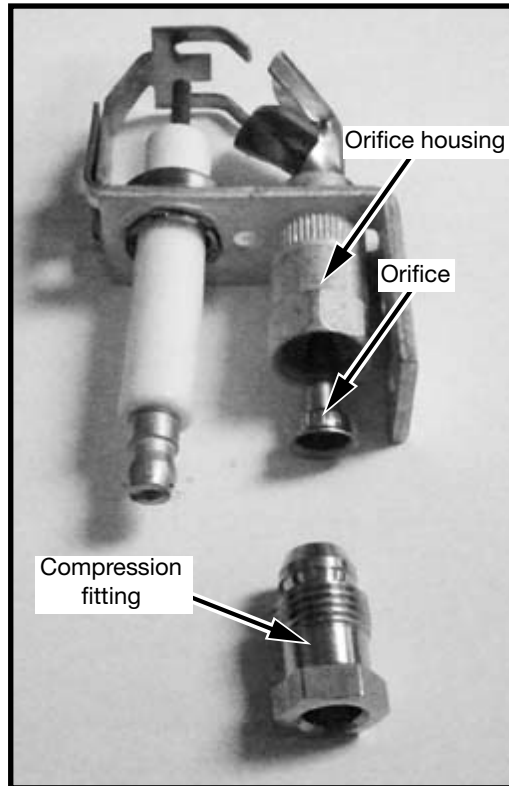

Figure 2: Orifice insert.
2. Insert the propane orifice that came in your instruction pack as shown into the orifice housing and reattach the pilot to the compression fitting and pilot tube (Figure 2 and Figure 3).